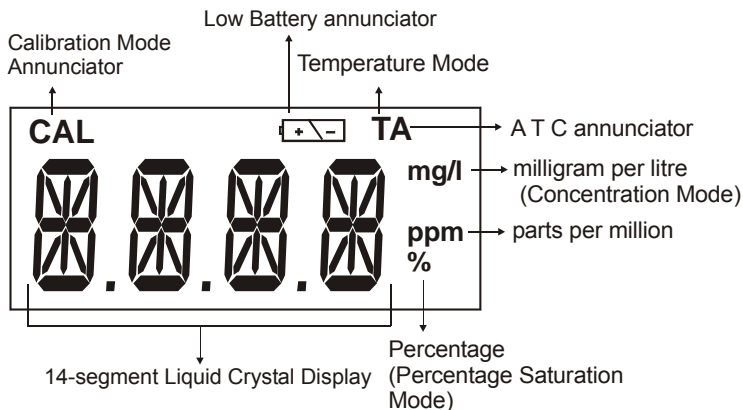

Figure 1: Active LCD display for DO 6
The meter has a large custom LCD that consists of 14-segment 4 digit display and operation annunciators for Percentage Saturation measurement mode (%), Concentration measurement mode (mg/L or ppm) and Temperature measurement mode in degrees Celsius (T). Other annunciators include “A” (when the ATC function is activated), “CAL” (when meter is in calibration mode) and battery diagram for low battery condition. See Figure 1.